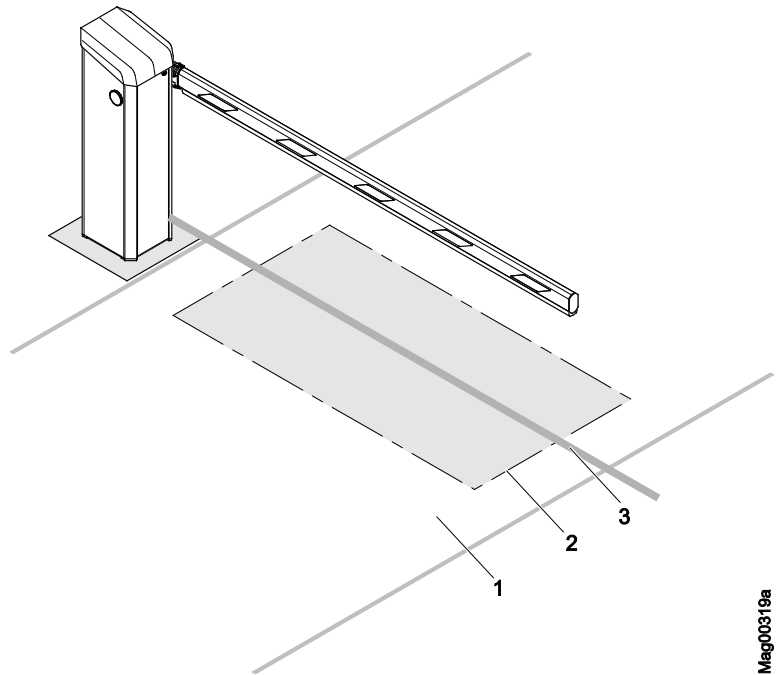

Fig. 16: Arrangement example of an induction loop for passenger car operation
- The clearance of the safety loop for passenger cars in front of, and behind the barrier boom must be at least 500 mm. The safety loop for lorries must be dimensioned larger. → See also page 53, Fig. 16.